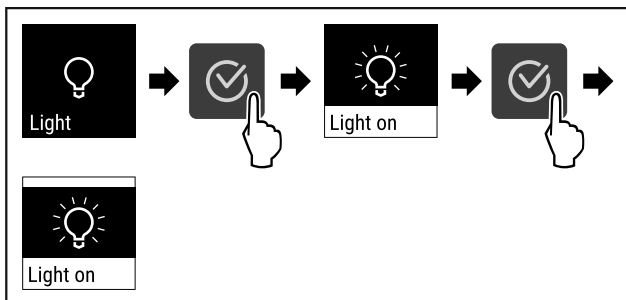

Fig. 72
- ▶ Complete steps (see Fig. 72).